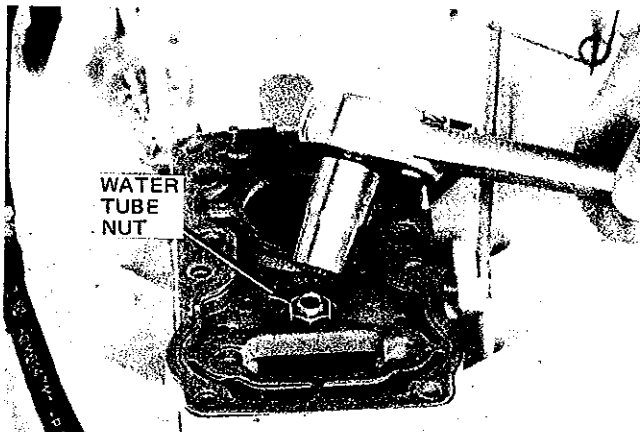
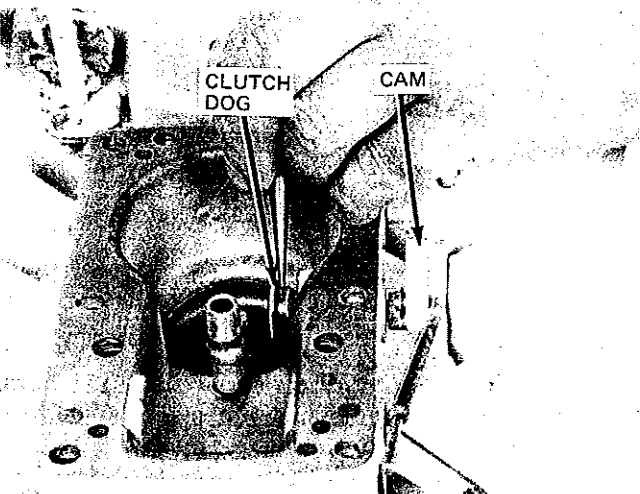

Figure 5
Figure 6
- (1) Remove the hex nut, flat washer and Viton seal from the water tube (Figure 5).
- (2) Remove lower adaptor plate.
- (3) Drive out the spirol pins in the clutch dog and cam (Figure 6).
- (4) Remove the shift rod and knob.
- (5) Remove exhaust deflector and gasket.
- (6) To remove the knob from the shift rod, drive out the spirol pin.